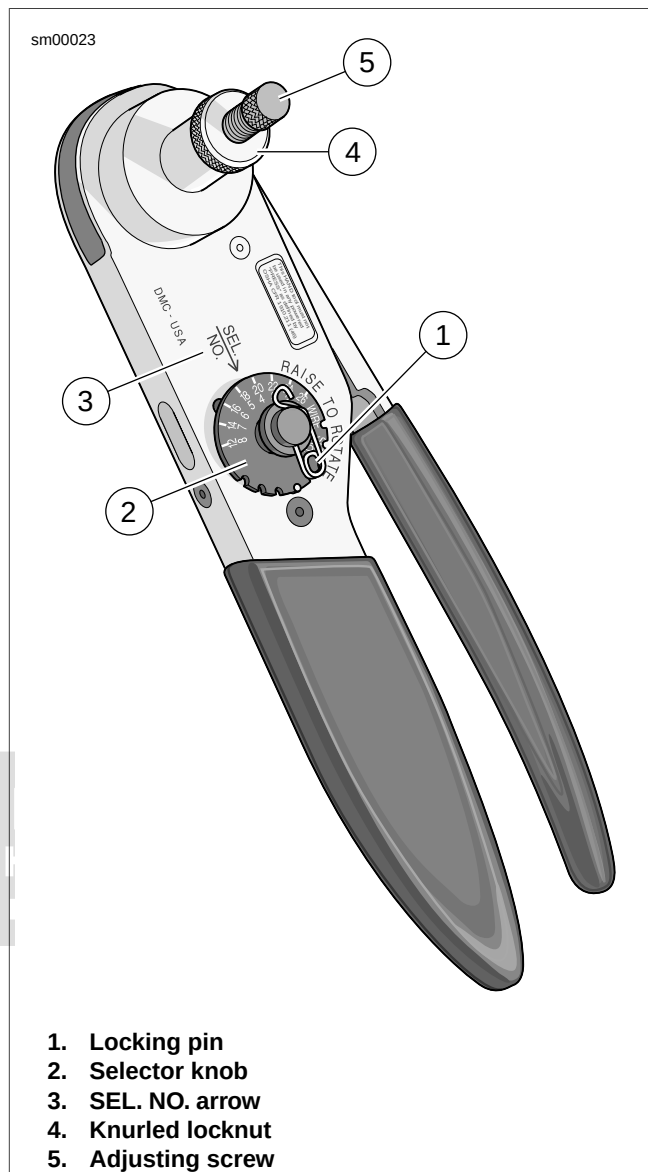

Figure A-21. Electrical Crimper Tool (HD-42879)
1. See Figure A-21. Squeeze the ELECTRICAL CRIMPER TOOL (Part No. HD-42879) handles to cycle the crimp tool to open.
2. Remove locking pin (1) from selector knob (2).
3. Raise selector knob and rotate until selected wire size stamped on wheel is aligned with "SEL. NO." arrow (3).
4. Loosen knurled locknut (4) and turn adjusting screw (5) clockwise (in) until it stops.